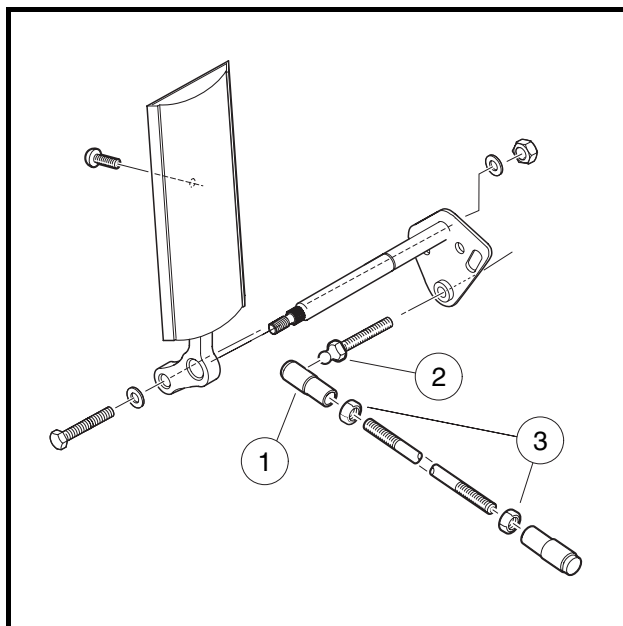
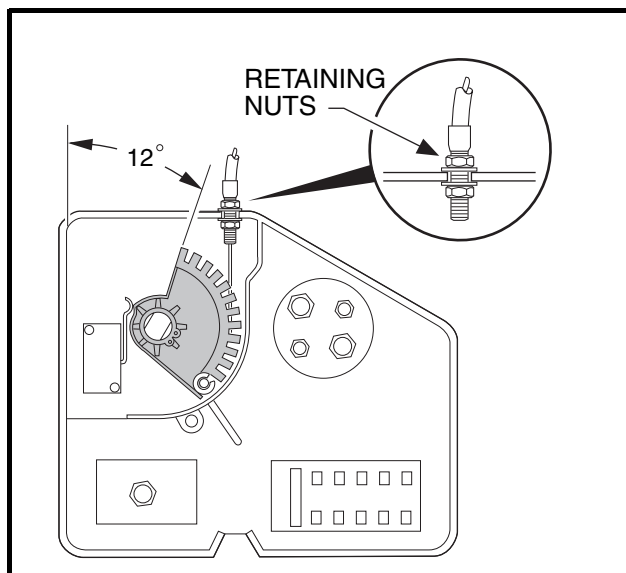

Figure 14-3 Accelerator Rod
Figure 14-4 DS Golf Car and Villager 4 Cam Position
2. Remove the accelerator rod by disconnecting the ball joint (1) from the ball stud (2) on the accelerator pedal (Figure 14-3, Page 14-6) and from the bell crank at the electrical box (Figure 14-6, Page 14-8).
2. Install the ball joint on the ball stud at the accelerator pedal (**Figure 14-3, Page 14-6**).
- For the DS and Villager 4 vehicles, with the ball joint jam nuts (3) loose (**Figure 14-3, Page 14-6**), adjust the length of the accelerator rod to obtain a throttle cable cam position of 12° as shown (**Figure 14-4, Page 14-7**).
- For Turf 1 and Carryall 1 vehicles, with the ball joint jam nuts (3) loose (**Figure 14-3, Page 14-6**), adjust the length of the accelerator rod so the indicated cam edge is parallel with the edge of the electrical component box as shown (**Figure 14-5, Page 14-7**).
1. Remove the electrical box screw and cover and loosen the accelerator cable housing retaining nuts (**Figure 14-4, Page 14-7 or Figure 14-5, Page 14-7**).
2. Insert the cable housing into the mounting slot in the wall of the electrical box, with approximately the same number of threads visible between the jam nuts as are visible from the nut inside the box to the end of the cable housing (**Figure 14-4, Page 14-7 or Figure 14-5, Page 14-7**). Tighten the nuts finger tight.
6. To **reduce** RPM, loosen the accelerator cable retaining nut on the outside of the electrical box wall and tighten the retaining nut on the inside of the wall until the specified RPM is reached (**Figure 14-4, Page 14-7 or Figure 14-5, Page 14-7**). To **increase** RPM, loosen the cable retaining nut inside the electrical box and tighten the nut outside the box until the specified RPM is reached.